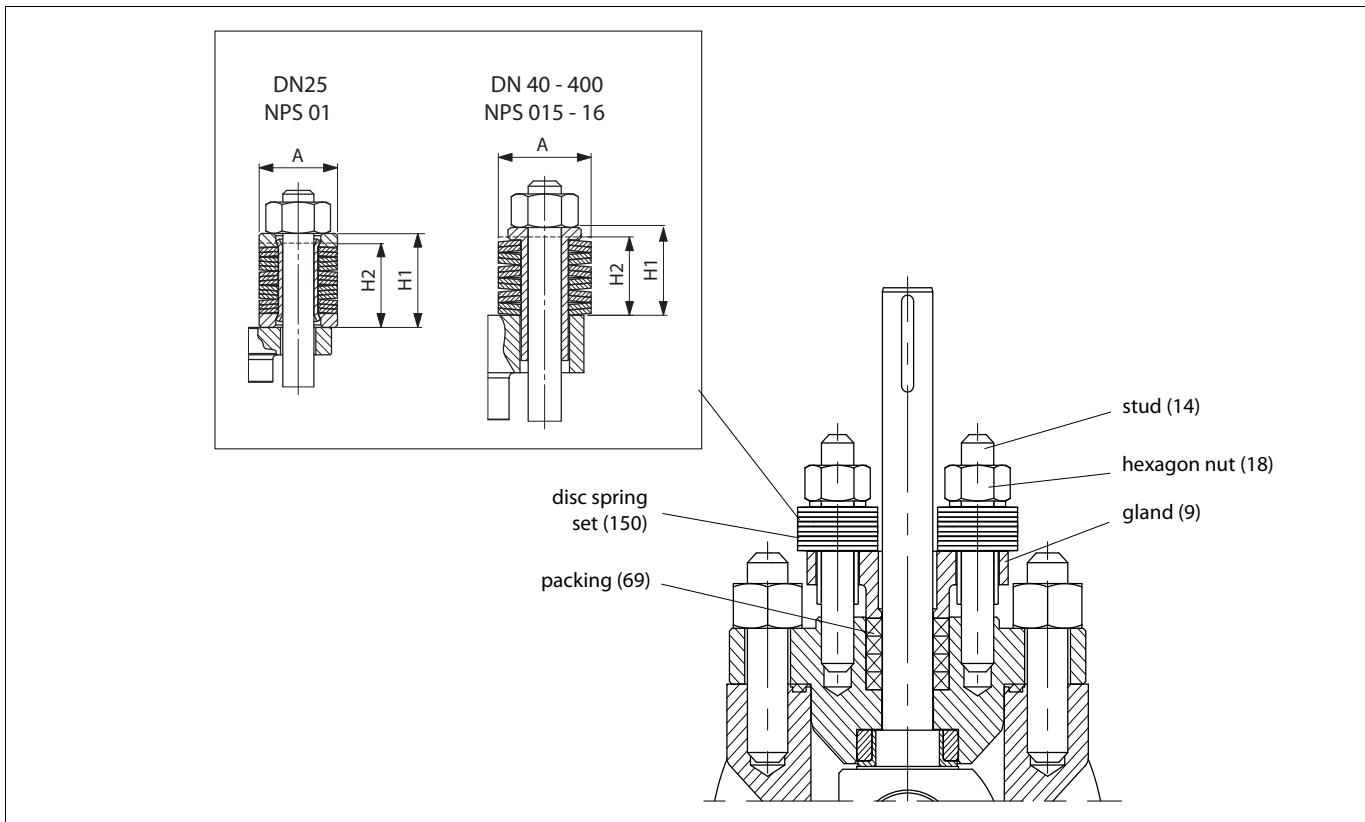

Fig. 9. Gland packing
- Pre-compress the packing rings (69) first tightening the gland nuts (18) to the torque  $T_t$ . See Fig. 9 and the value from Table 2.
- Retighten the nuts (18) to the torque  $T_t$ , see table 2.
- Check leakage when the valve is pressurized. If the leakage still occurs when the valve is pressurized, retighten the nuts (18) but don't exceed the torque  $T_t$  value in the Table 2 by 50 %.
- Pre-compress the packing rings (69) first tightening the disc springs (150) to the height  $H_2$ . See Fig. 9 and the value from Table 2.
- Retighten the disc springs (150) to the height  $H_2$ , see table 2.
- Check leakage when the valve is pressurized. If the leakage still occurs when the valve is pressurized, retighten the disc springs (150) but do not fully compress (totally flat) them.